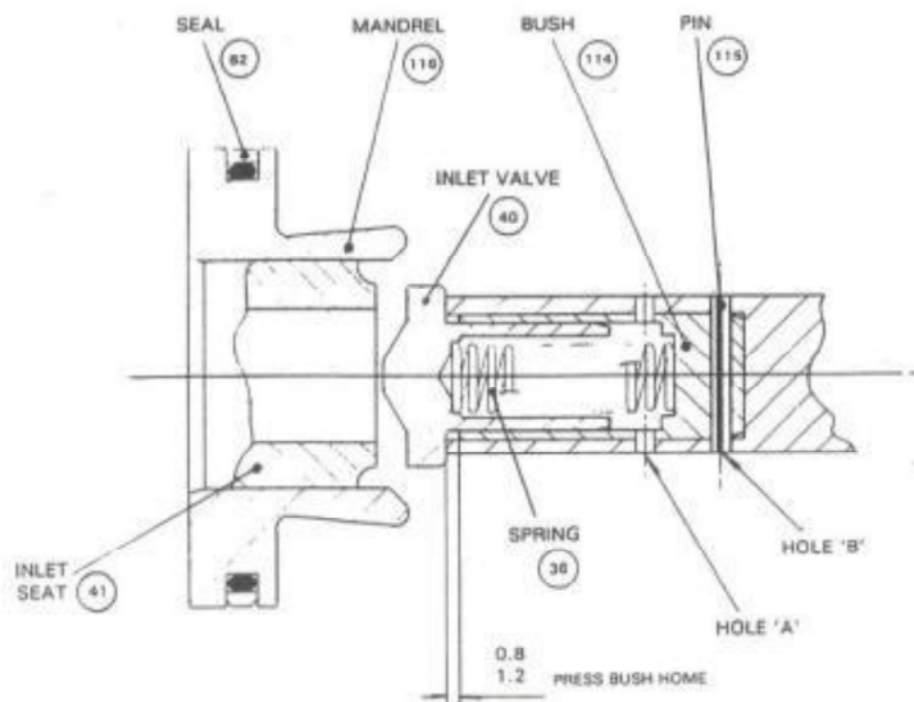
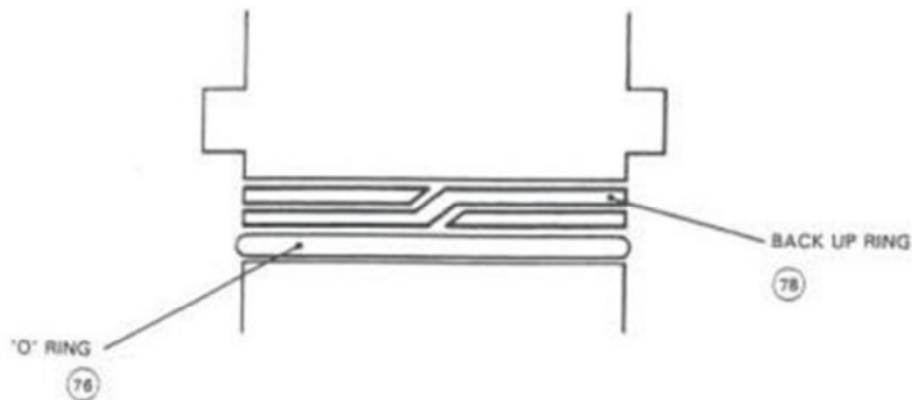

Fig 4.1 Mandrel Assembly
Fig 4.2 Inlet Valve Seat – Back Up Ring and 'O' Ring Fitting
During the pump overhaul procedures, reference should be made to the pump component and assembly drawings (Figs 4.1 to 4.6), which include associated parts lists. Also included are assembly drawings of the Mk 2 selector and safety relief valve (Figs 4.7 and 4.8).
In the following overhaul procedures, the item number that follows the description of a part refers to the assembly drawings (Figs 4.1 and 4.3 to 4.6).
- iv. Insert a Drift (part no 201-043) into the end of the Mandrel, from delivery end. Tap the end of the Drift to remove Collar (42), Inlet Seat (41), Spring (36), Valve 40, Mandrel Assembly (38) and Diaphragm (37) from the inlet end of the Barrel.
- v. Pull the Inlet Seat (41) from the Mandrel Assembly (38). Remove Valve (40) and Spring (36).
- vi. Using Extractor (part no 201-082), remove Diaphragm (37) from Mandrel Assembly (38). Inspect the Diaphragm for splits or holes, replace if necessary.
- vii. Inspect Spring (36), replace if necessary.
- viii. Inspect the seating faces of the Valve (40) and Seat (41). If either is badly pitted, chipped or unevenly worn, it must be replaced.
- ix. Inspect the bore of Bush (114).. It should be noted that if the bore is worn it will prevent Valve (40) from shutting smoothly and squarely onto the Seat(41) and must be replaced if necessary. The procedure for replacing the Bush is as follows:
- a. Remove the Pin (115).
- b. Screw an M12 tap into the Bush (114) until it bottoms.
- c. Hold end of tap in a vice and gently tap the face of Mandrel (116) with a nylon mallet, until the Bush is removed.
- e. Using a 1.9 mm diameter bit, drill through 6 holes in Mandrel through wall of Bush (see Fig 4.1 - holes A).
- f. Using a 1.9 mm diameter bit, drill through hole in Mandrel, right through Bush (see Fig 4.1 - holes B).
- g. Using a flat punch, refit Pin (115) through Mandrel and Bush.
- xi. Inspect Seal (82 - Fig 4.1). If it is damaged, replace as follows:
- xii. Place Valve (40) and Spring (36) into Bush (114).
- xiii. With reference to Fig 4.2, fit Back Up Ring (78) and 'O' ring (76) to Seat (41), and grease both. Ensure Back Up Ring is fitted as shown.
- xiv. Push and turn Seat (41) anti-clockwise into the Mandrel Assembly